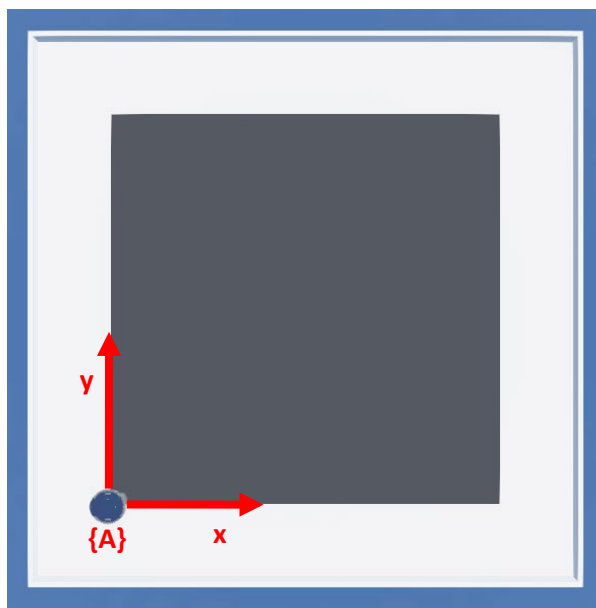

Figure 1 : Reference frame
- Modify the `controller_get_pose()` to fill the pose structure with the GPS positions and heading. Use the reference frame detailed in the Figure 1 to fill the `pose_t` structure.
Note: The variable `_pose_origin` contains the position and orientation of the reference frame's origin A expressed in the world frame (same as GPS values) illustrated in *Figure 1*. Its fields are `x`, `y` and `heading`.
A file `data.csv` has been created inside the controller folder. This file contains the logs of the simulation. Run MATLAB code `plot_main.m` (only part A) to plot the values of the accelerometer. What is the frame of the accelerometer? Which indexes of the accelerometer array (`acc`) correspond to the x-, y- and z-axis of the frame A (see Figure 1)?